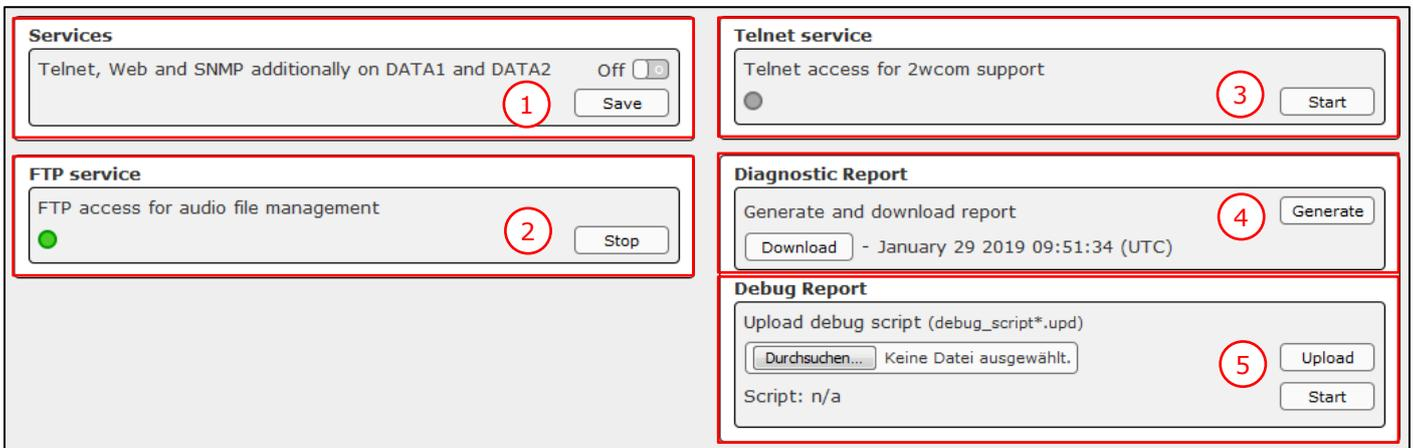

Figure 68: Global System Settings – Telnet service
For the service communication use the 10/100/1000 Base-T interface [Ctrl]. Additionally, you can activate the interfaces [Data 1] and [Data 2] for service under **System Settings→Global** (see Figure 68, #1 on page 93).
2. Click the “Start” button in the **Telnet service** field to enable the telnet access for 2wcom support (see Figure 68, #3).